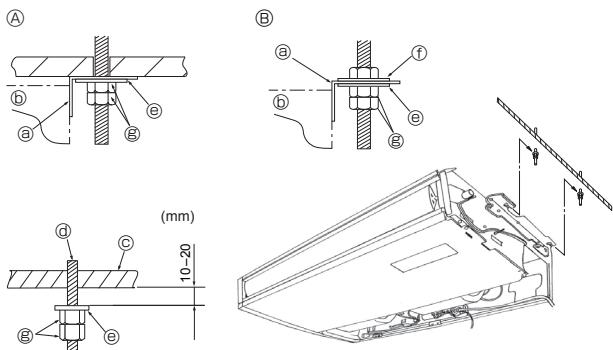

Fig. 3-5
⑨ Pushing the hinge, pull out the intake grille.
⑪ Forcing open the intake grille or opening it to an angle of more than 120° may damage the hinges.
3.3. Installing the indoor unit (Fig. 3-5)